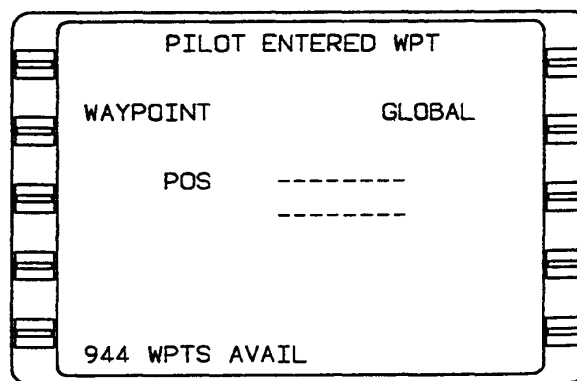

Figure 3A-52. Pilot Entered Waypoint Page
(2) *Pilot Entered Waypoint Page.* The pilot entered waypoint page allows the pilot to enter custom waypoints. Refer to Figure 3A-52.